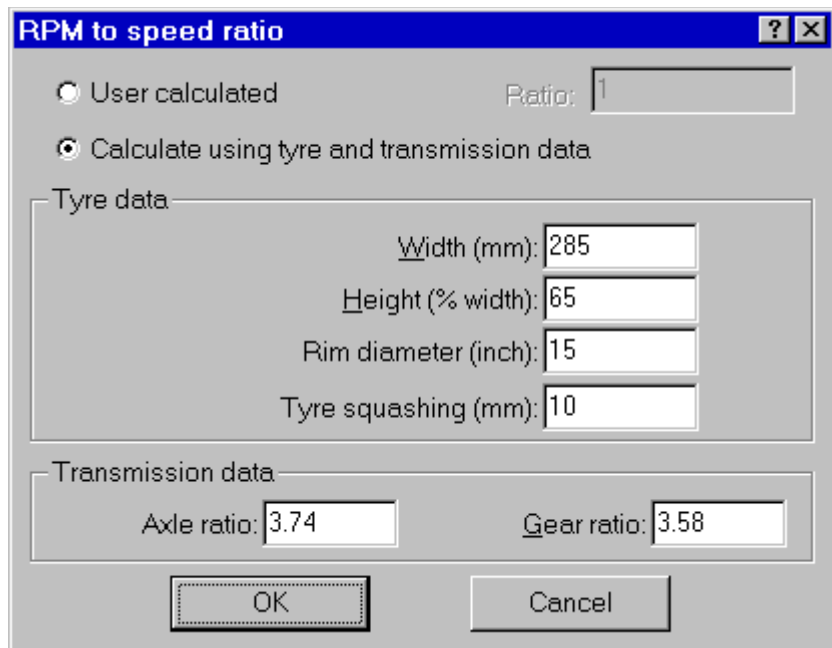

Figure 3-19 *Total transmission ratio dialog window*
- Recalculating the distance data from the RPM data. In this case the vehicle total transmission ratio must be entered. That information is then used to convert from RPM to speed and then to distance values. Click on the Change button to modify the transmission ratio. The total transmission ration dialog box will appear. (See figure 3-19)